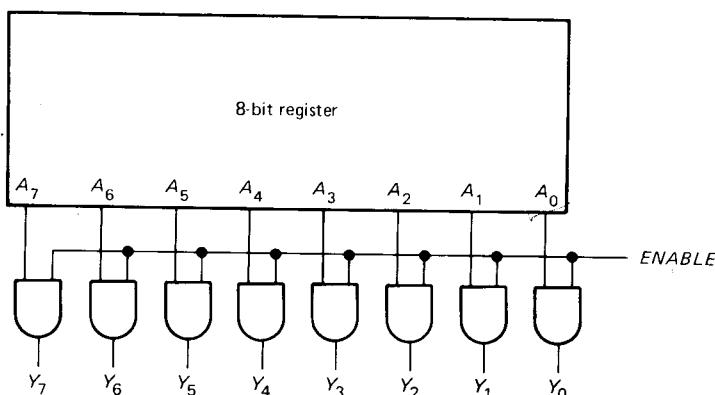

Fig. 2-19
- 2-10. Visualize the register contents of Fig. 2-19 as the word $A_7A_6 \cdots A_0$, and the final output as the word $Y_7Y_6 \cdots Y_0$. What is the output word for each of the following conditions:
- 2-11.** The 8-bit register of Fig. 2-19 stores 59₁₀. What is the decimal equivalent of the final output word if *ENABLE* = 0? If *ENABLE* = 1?